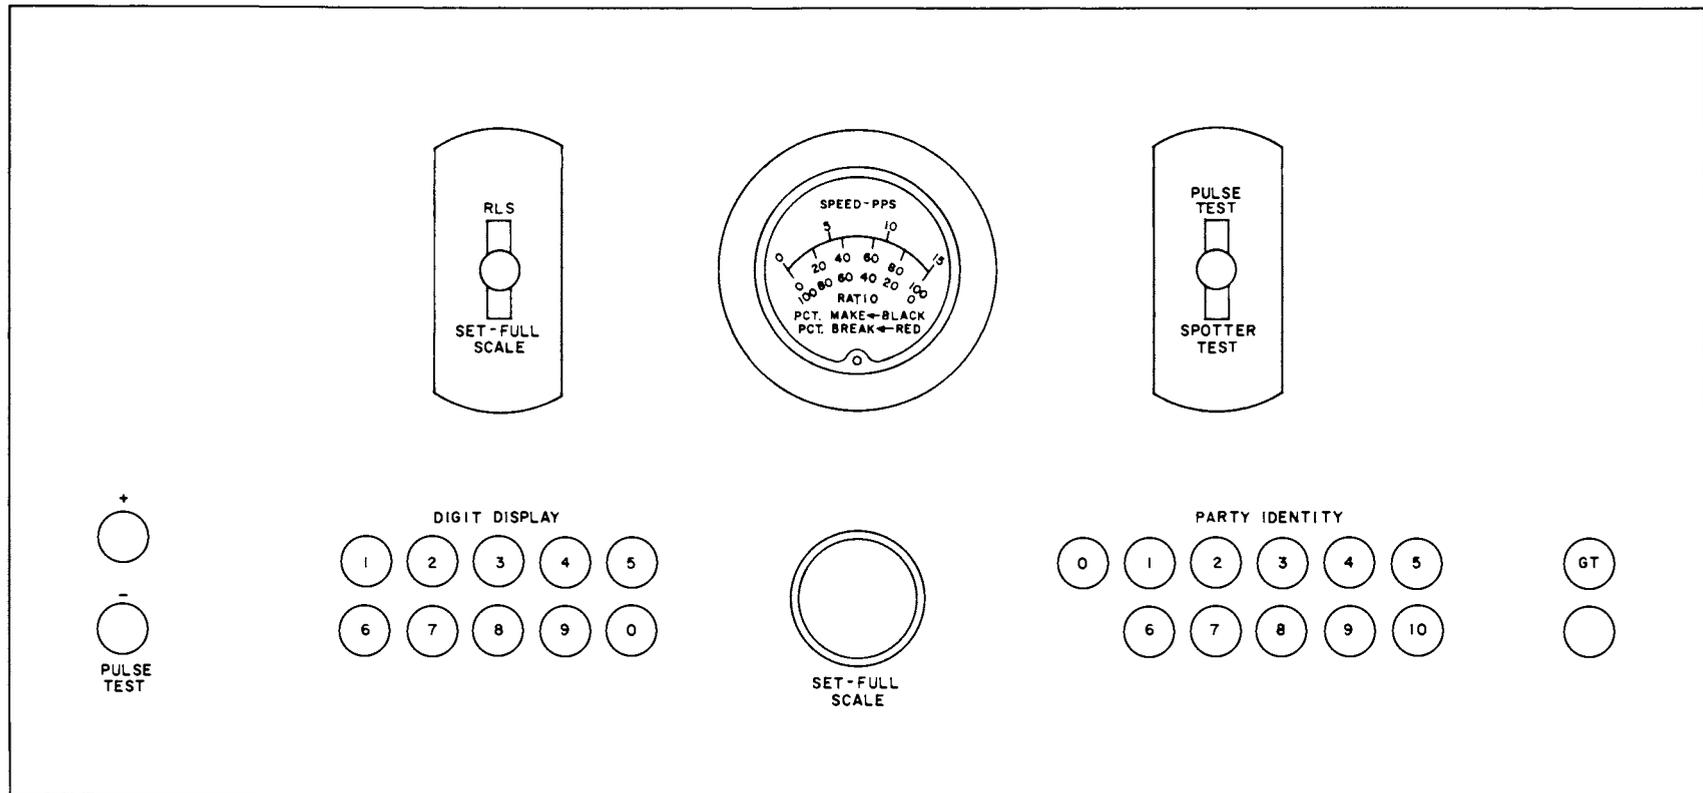
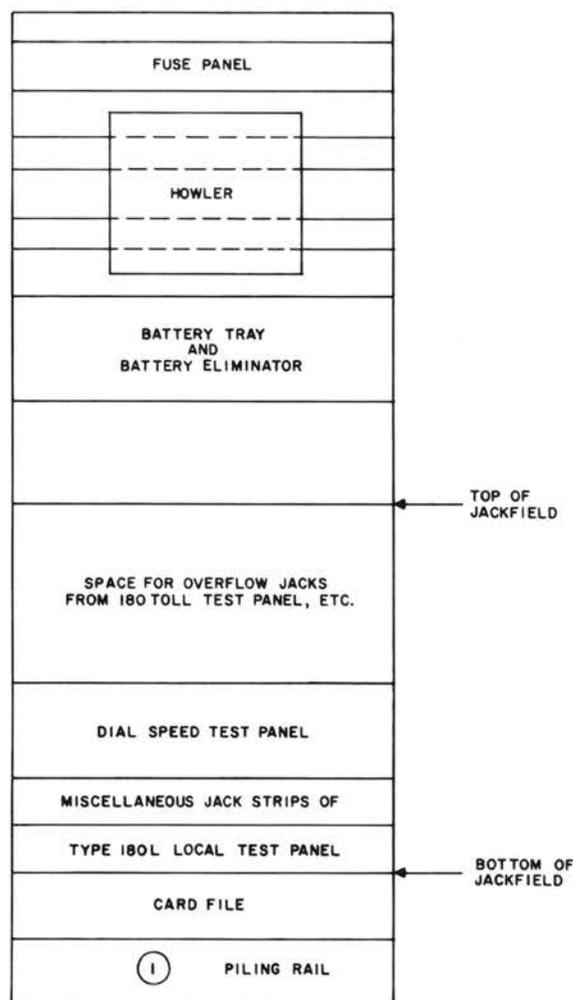

Figure 6. Dial speed test panel.
Figure 7. Typical layout of equipment mounted on the relay rack.
a. Dial Speed Test Panel. The Dial Speed Test Panel (figure 6) provides dial testing facilities for regular and SATT installations. When used as a regular dial testing facility, the DIGIT DISPLAY, PARTY IDENTITY, and GT (ground test) lamps and keys RLS and SPOTTER TEST are wired but not used. The Dial Speed Test Panel mounts within the jackfield (figure 7). The function of the Dial Speed Test Panel lamps and keys is described in section 3.4.
b. Howler. The howler is an optional component used to place howler tone on a line to attract the attention of a customer who has failed to return the handset to its cradle. The howler is mounted on the relay rack directly above the test battery (figure 7) or battery eliminator (see paragraph 2.2.4).
The Type 180L Local Test Panel mounts a test battery or battery eliminator for a test voltage source of 150-volt and 15-volt dc. The battery or battery eliminator mounts on a battery tray located on the relay rack above the jackfield (figure 7).
The Type 180L Local Test Panel can be equipped with a trouble ticket card file. This card compartment mounts below the jackfield as shown in figure 7.